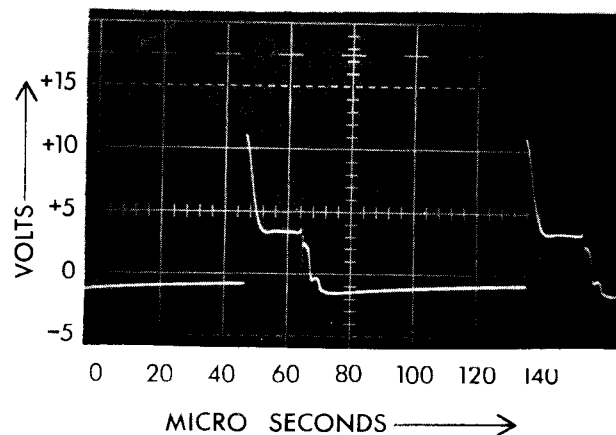

FIGURE 6
- a. Will observe 11 KHZ rectangular waveform. See Figure 6.